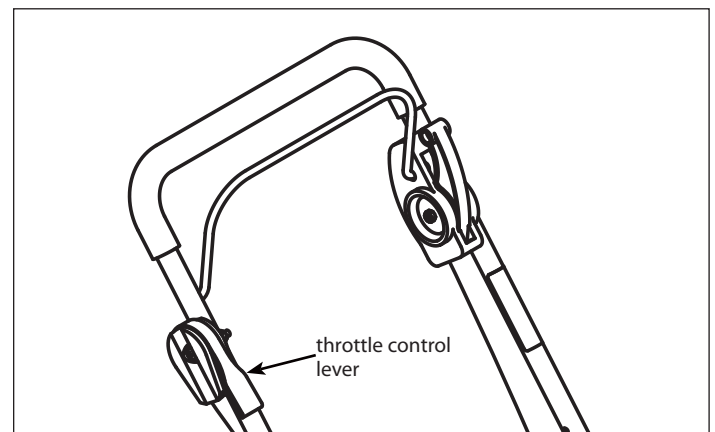

FIGURE 6: Using the throttle control
1. During normal use, set the throttle control lever in the FAST position to run the engine at full speed. **SEE FIGURE 6**